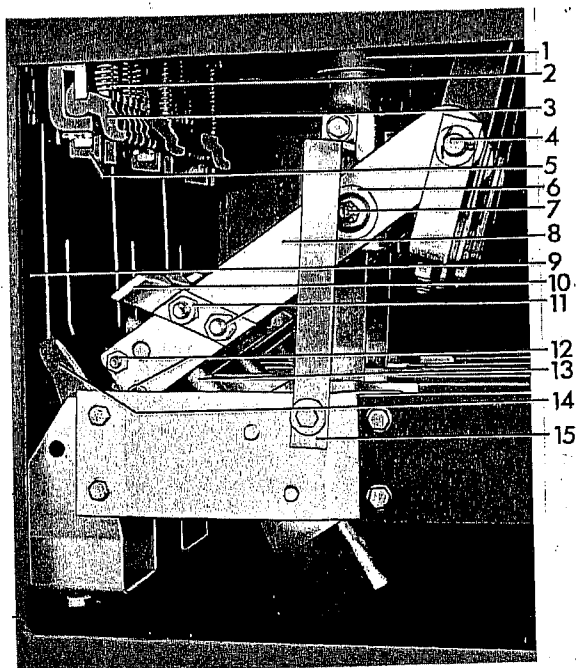

Figure 23. (8039588) Contact Assembly
1. Disconnect the contact braids (7) from the contact fingers by removing two bolts and locking plates (8).
3. To disassemble braids from stud plate remove one bolt (5).
4. To disassemble stud plate from contact support, remove two bolts (6).
5. Reassemble in the reverse order, make sure locking plates are properly re-assembled with bolts (8).
### B. Movable Arcing Contact (14) Figure 23.
1. Remove the assembly bolts (12) making note of quantity and location of shims and spacers used between contacts and contact arms.
3. Close the breaker slowly to check that the movable arcing contact is approximately centered on the stationary arcing contact and that it does not rub on either side of the throat barrier (9).
#### D. Movable Primary Contacts (10) Figure 23.
2. Pry contact arms (8) apart enough to disengage pivot pins of piston assembly (13) allowing piston to drop down into its booster cylinder.
3. Rotate the two parts of the contact arm assembly away from each other so assembly bolts (11) are accessible and movable primary contacts (10) can be removed.
E. Contact Arm Assembly (8, 10, 12, 14, Figure 23).
1. Remove connection bar (15).
2. Disassemble hinge pin (7), cup bearing (6), and operating rod pin (4) noting quantity and location of any washers and spacers used in assemblies.
3. The contact arm assembly including the piston assembly (13) can now be removed.
4. When reassembling, first insert piston tube assembly (13) into the booster cylinder and reassemble the cup bearing, making sure the silvered contact washers between the bushing and contact arms (both sides) are in place.
5. Reassemble operating rod pin (4) and connection bar (15).
3. Remove the connection bar (15) Figure 23, cup bearing (6) and hinge pin (7).
5. When reassembling, first mount the bushing and assemble the cup bearing (6), contact arm (8), and replace pin (7) being sure the silvered contact washers between the bushing and contact arms are in place. The contact surfaces at the hinge point of the contact blade and bushing should have a thin coating of D50H47 grease.